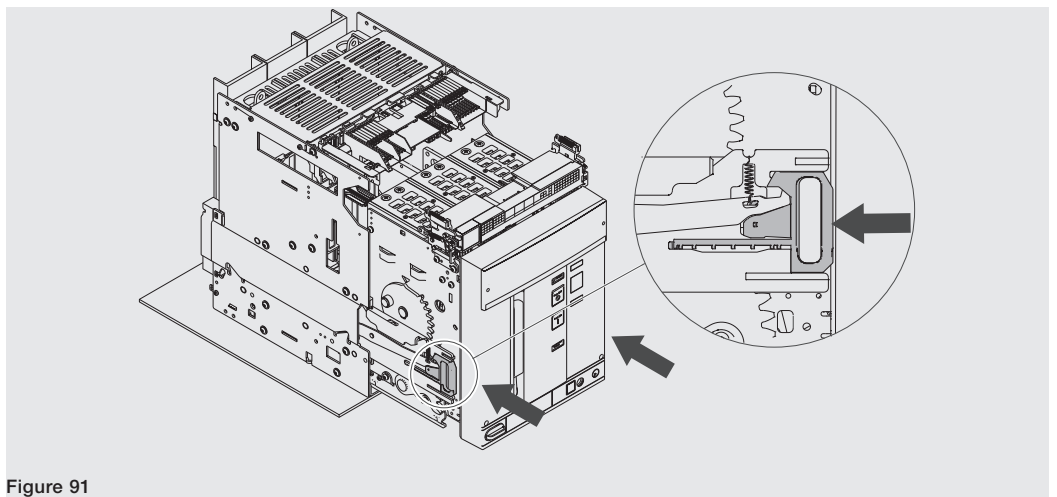

Figure 91
7. Grip the guide levers of the fixed part and push them until the moving part stops. See Figure 91.